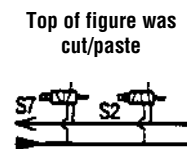

Figure 6-15. Locking Tilt Schematic
• Tilt (Figure 6-15)
the appropriate remedy may or may not correct the problem (see Figure 6-15 thru 6-21 and the System Schematic in Section 6.3).